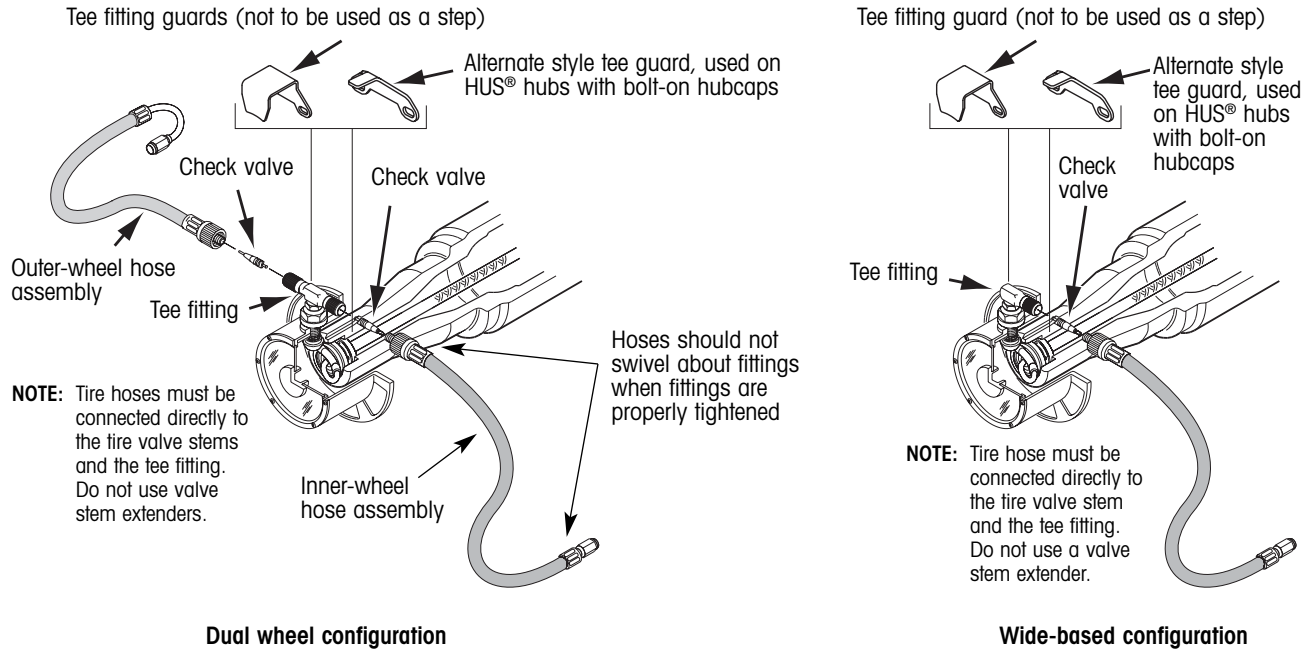

Figure 5. Tire hose, check valve and tee fitting guard installation
6. Attach tire hose and check valve assemblies to the tee fitting and tighten finger tight (figure 5).
7. Attach the tee fitting guard (figure 5). Remove the two hub cap bolts closest to the rotary joint bulkhead adapter, place the tee fitting guard over the rotary joint bulkhead adapter and reinstall the hub cap bolts through the holes in the tee fitting guard. Tighten the hub cap bolts to 12 - 18 ft. lbs. (16 - 24 N•m) of torque.